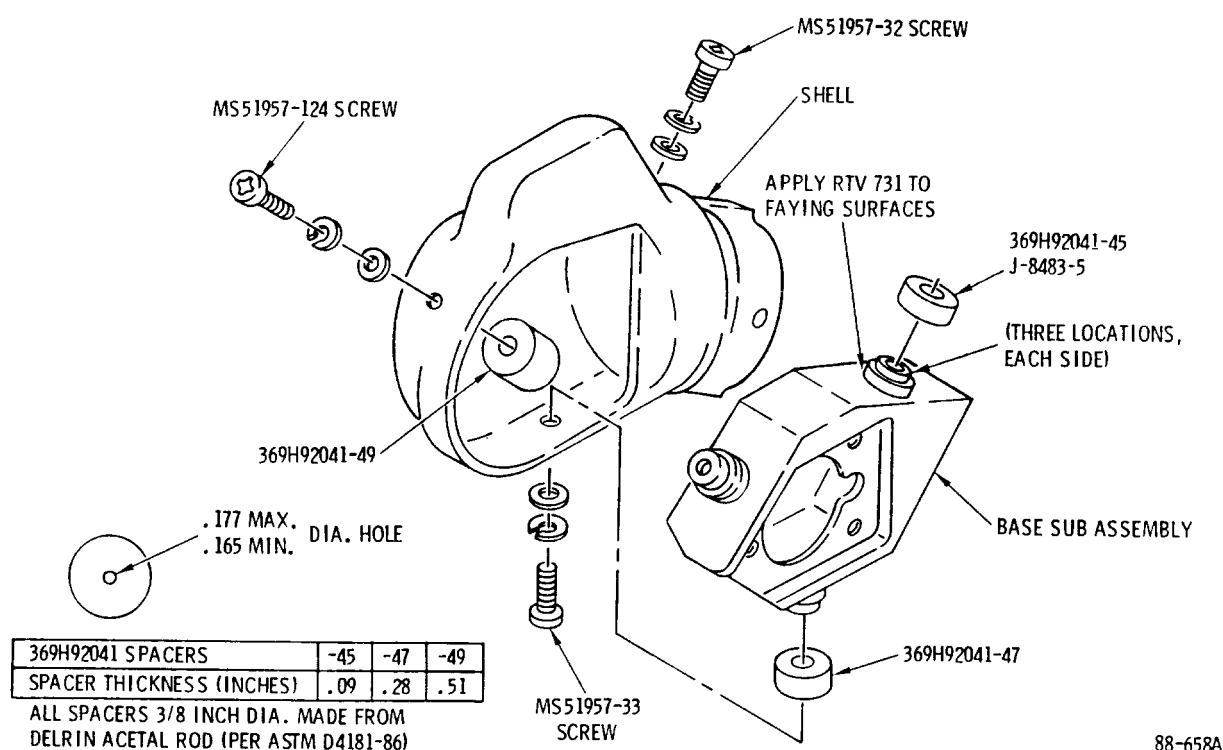

Figure 1. Skid Tube Position Light Assembly
- Remove the left and right hand base sub-assemblies by removing (3) screws and associated hardware (each side). Discard existing spacers and mounting screws.
- Reinstall base sub-assemblies using the spacers and screws called Out in Figure I and the above parts list. Offer associated hardware is shown in Figure 1 and called out in the applicable illustrated parts catalogs.